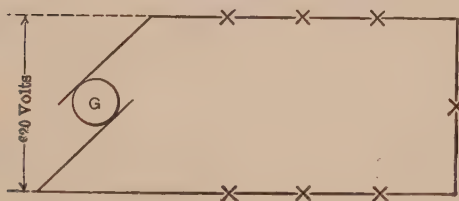

FIG. 85.
**Prob. 47.** Each arc lamp, Fig. 85, takes 6 amp. at 85 volts. The distance between lamps is 200 ft. The lamps nearest the